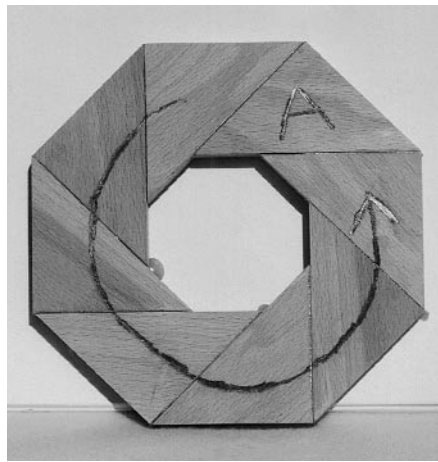

Figure 10a: As each ring is assembled, mark it for orientation in the stack so that the joint lines will be in the same direction in the finished turning.
4. Planing or sanding both sides of the ring to remove glue squeeze-out and other problems comes next. I prefer sanding with a 6x48-inch belt sander. A variable-orbit power sander using 60- or 80-grit paper is effective if you take care to keep the tool level on the face of the ring. You need a flat surface to ensure good contact between the rings. (Note: If you use the from-the-base-up assembly procedure I will describe in Part II, this flat-sanding can be limited to the one side that will face the headstock.) As each ring assembly is finished, orient it for final assembly. This orientation is very important to ensure that all miter/butt joints run in the right direction. In Figure 10a the arrow points in the direction of lathe rotation (this surface will face away from the headstock). Inspection shows that at each joint between the segment pieces the trailing point of the lead segment is fully supported by the shoulder of the trailing piece. Just as important, cutting into the second segment will be “with the grain,” avoiding tear-out there. I ori-
ent the rings on some feature that I can identify easily at any time. As in Figure 10a, I always choose the same segment in the top/right position (marked as A) and ensure that the long side is horizontal. Any other standard visual guide that produces the orientation shown would do as well. Figure 10b shows the result of turning the ring over; the difference is readily apparent, as is the potential for against-the-grain tear-outs. To avoid confusion (errors) in later assembly, I usually mark each ring with the proper orientation (the arrow) and a number or letter indicating where the ring locates in the final assembly process. The “A” in this case would indicate this is to be the first ring in the final workpiece.